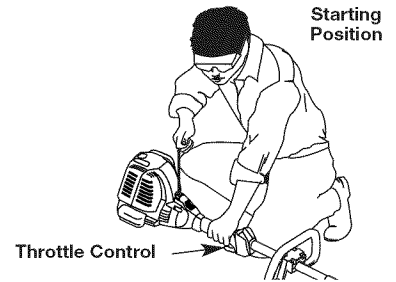

Fig. 12
WARNING: Avoid accidental starting. Make sure to be in the starting position when pulling the starter rope (Fig. 12). To avoid serious injury, the operator and unit must be in a stable position while starting.
4. With the unit in the starting position, **do not squeeze the throttle control** (Fig. 12). Pull the starter rope in a controlled motion until unit starts.
4. With the unit in the starting position (Fig. 12). Place the Plug-In Power Start or Power Bit Start into the back of the unit. Refer to Operation section of the Plug-In Power Start or Power Bit Start operator's manual.
5. **Do Not squeeze the throttle control**, press and hold the Plug-In Plug-In Power Start or drill's ON (I) button for 2 second intervals until unit starts.